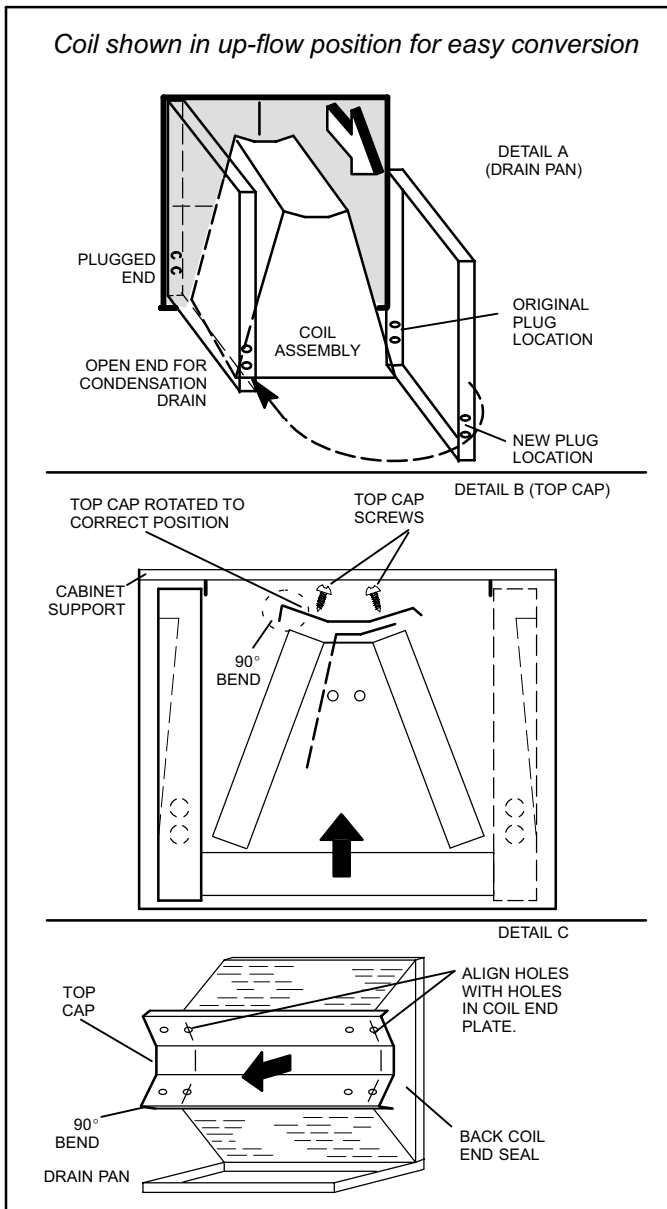

Figure 4. Left-Hand Discharge Modifications
- Step 2. Remove the coil assembly from unit, and remove the horizontal drain pan as illustrated in figure 4, detail A on page 8.
- Step 5. Remove screws from top cap, and then remove horizontal drip shield screw located in the center of the back coil end seal as illustrated in figure 4, detail B and C on page 8.
- Step 8. Rotate top cap 180° front to back and align with unused screw holes. Holes must align with front and back coil end plates. Note that top cap has a 45° bend on one side and 90° bend on the other. The 90° bend must be on the same side as the horizontal drain pan as illustrated in figure 4.